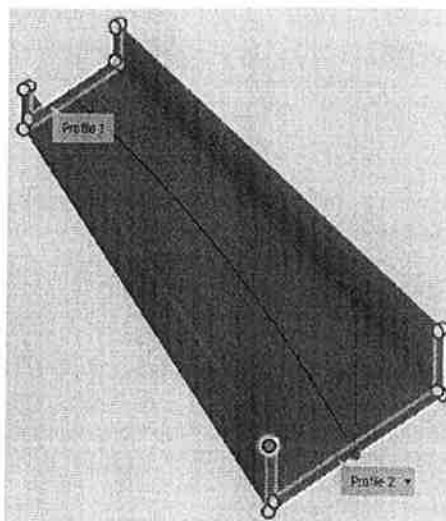

Figure 12–15
4. By default, the *Profiles* area is active. In the graphics window, select the two profiles (**Profile1** and **Profile2**). The loft is generated by blending between the two profile sketches, as shown in Figure 12–15.